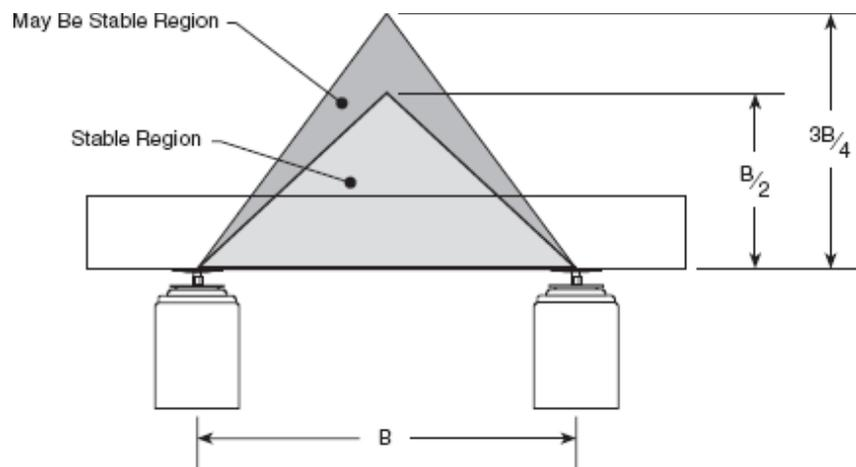

Figure 14 — System Stability
2. A rule of thumb for determining high center of gravity (C-G) system stability is shown in Figure 14. If the combined center of gravity of the payload and table top is within the "stable region", the system will be stable. If the combined C-G is inside the "may be stable region", the system may be stable. If the combined C-G is outside both regions, the system will probably be unstable.